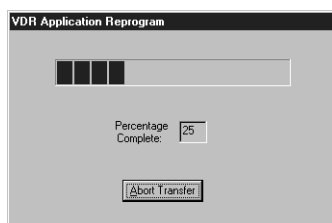

Figure 2.14: Download Status Box
- d Click the **OK** button to accept all variables and to begin the download to the VDR tool. This displays a download status box (Figure 2.14).